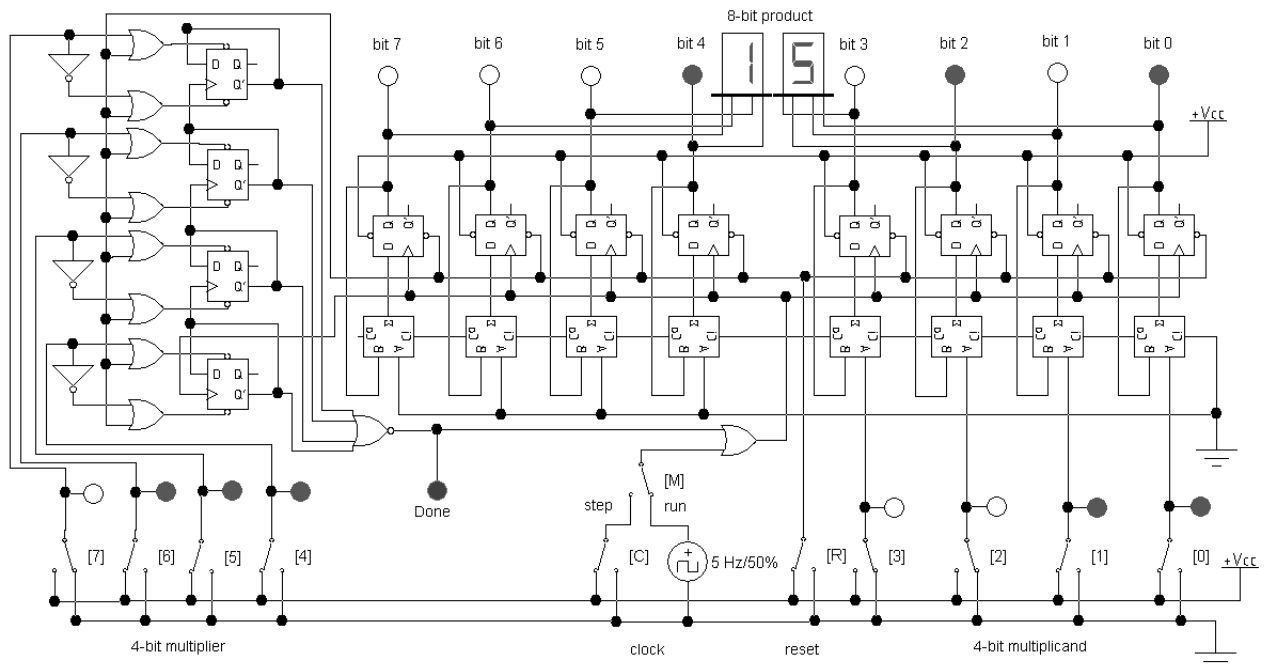

Figure 6.2: A 4x4 bit summing multiplier
Replace the manual clocking operation with an automatic one, using D-type latches connected as a down counter, as shown in Fig.6.2. Note the additions that have been made to the 8-bit adder circuit. The D-latches have active low preset and clear inputs. Switches set the 4-bit multiplier value which is loaded into the counter on reset. The rising edges of the clock pulses decrement the counter to zero and the circuit is then locked so that no further changes take place until a reset pulse restarts the circuit and another multiplication is performed.
- ⚠ Modify your 8-bit adder circuit to match Fig.6.2 and verify its operation.